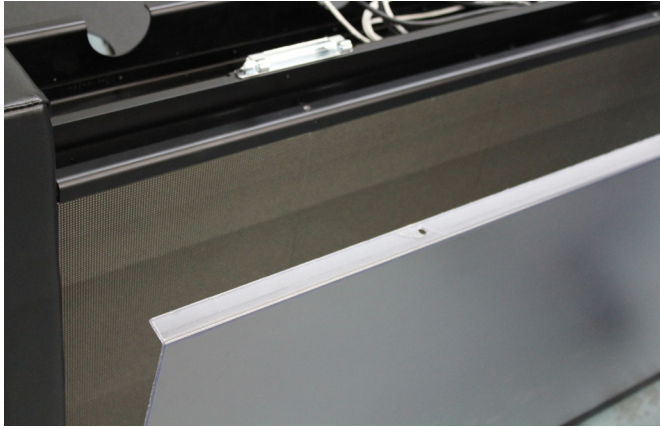

Figure 56: Tilt Face Panel Forward and Remove
6. Tilt the face panel forward and lift up to remove. Refer to **Figure 56**.